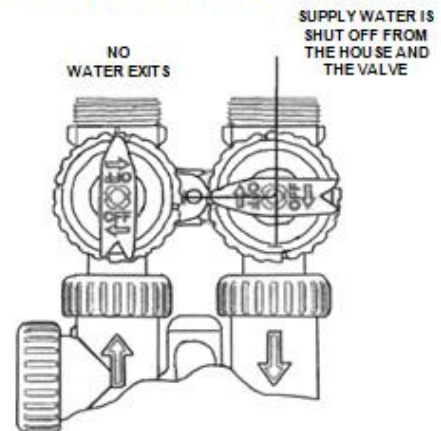

Figure 4
4. **Shut Off Position:** The inlet handle points to the center of the bypass valve and the outlet handle points away from the control valve. The water is shut off to the building. The water treatment system will depressurize upon opening a tap in the building. A negative pressure in the building combined with the softener being in regeneration could cause a siphoning of brine into the building. If water is available on the outlet side of the softener it is an indication of water bypassing the system **(Fig. 4)** (i.e. a plumbing cross-connection somewhere in the building).